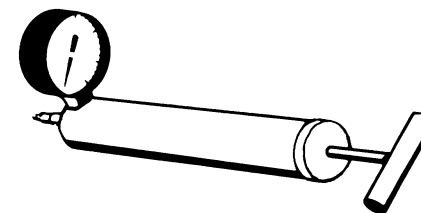

Figure 2 — Vacuum Tester
1. Connect **Vacuum Tester** (Figure 2) to component.